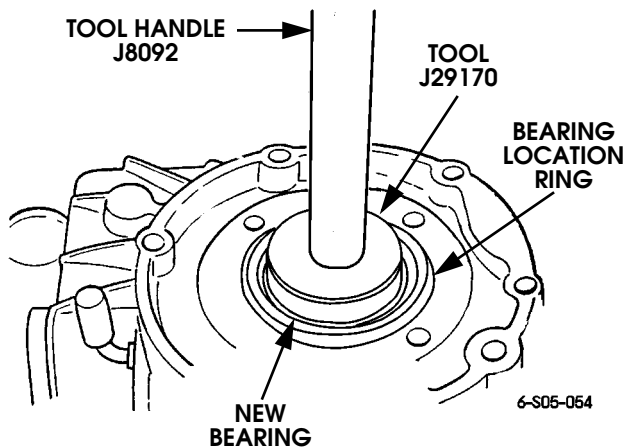

Figure 5-126: Input Gear Bearing Installation
2. Install new bearing using tool handle J8092 and tool J29170 (Figure 5-126). Seat bearing so locating ring is firmly seated against case.